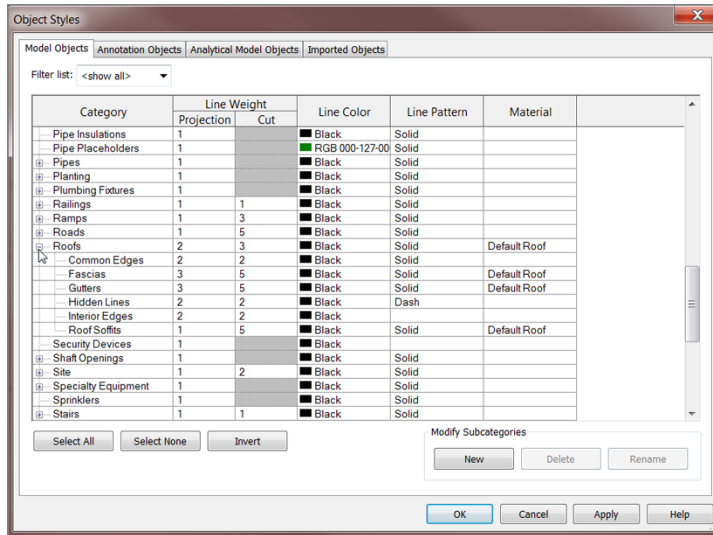

FIGURE 12.2: Changing the object line weights
3. In the Object Styles dialog is a list of every object category available in Revit. The first items you want to change are the roofs. In the Category column, scroll down until you see Roofs, as shown in Figure 12.2.
4. In the Roofs row, change the Cut value to 3 (see Figure 12.2).
8. Change the Cut value for Roof Soffits to 5 (again, see Figure 12.2).